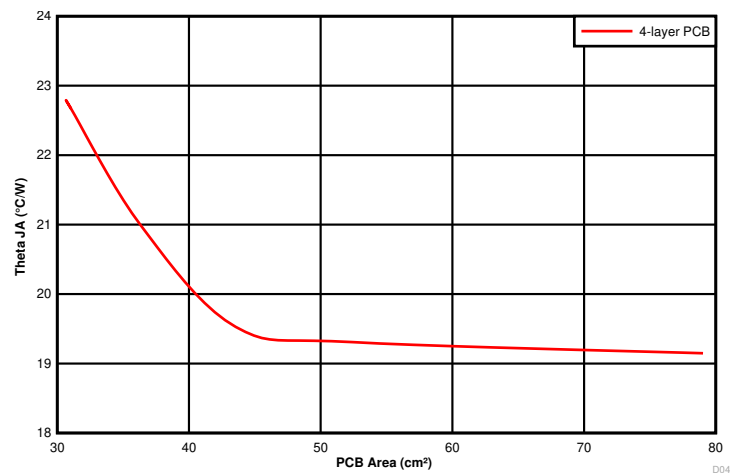

Figure 10-4. $R_{\theta JA}$ versus PCB Area (per layer)
The amount of PCB copper affects the thermal performance of the device. Figure 10-4 shows the effects of copper area on the junction-to-ambient thermal resistance ($R_{\theta JA}$) of the TPSM53602. The junction-to-ambient thermal resistance is plotted for a 4-layer PCB with PCB area from 30 cm² to 80 cm².
3. Reference Figure 10-4 to determine the minimum required PCB area for the application conditions.